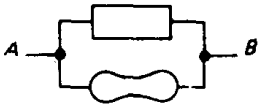

Figure 1.1
2. Things hooked in parallel (Fig. 1.1) have the same voltage across them. Restated, the sum of the "voltage drops" from A to B